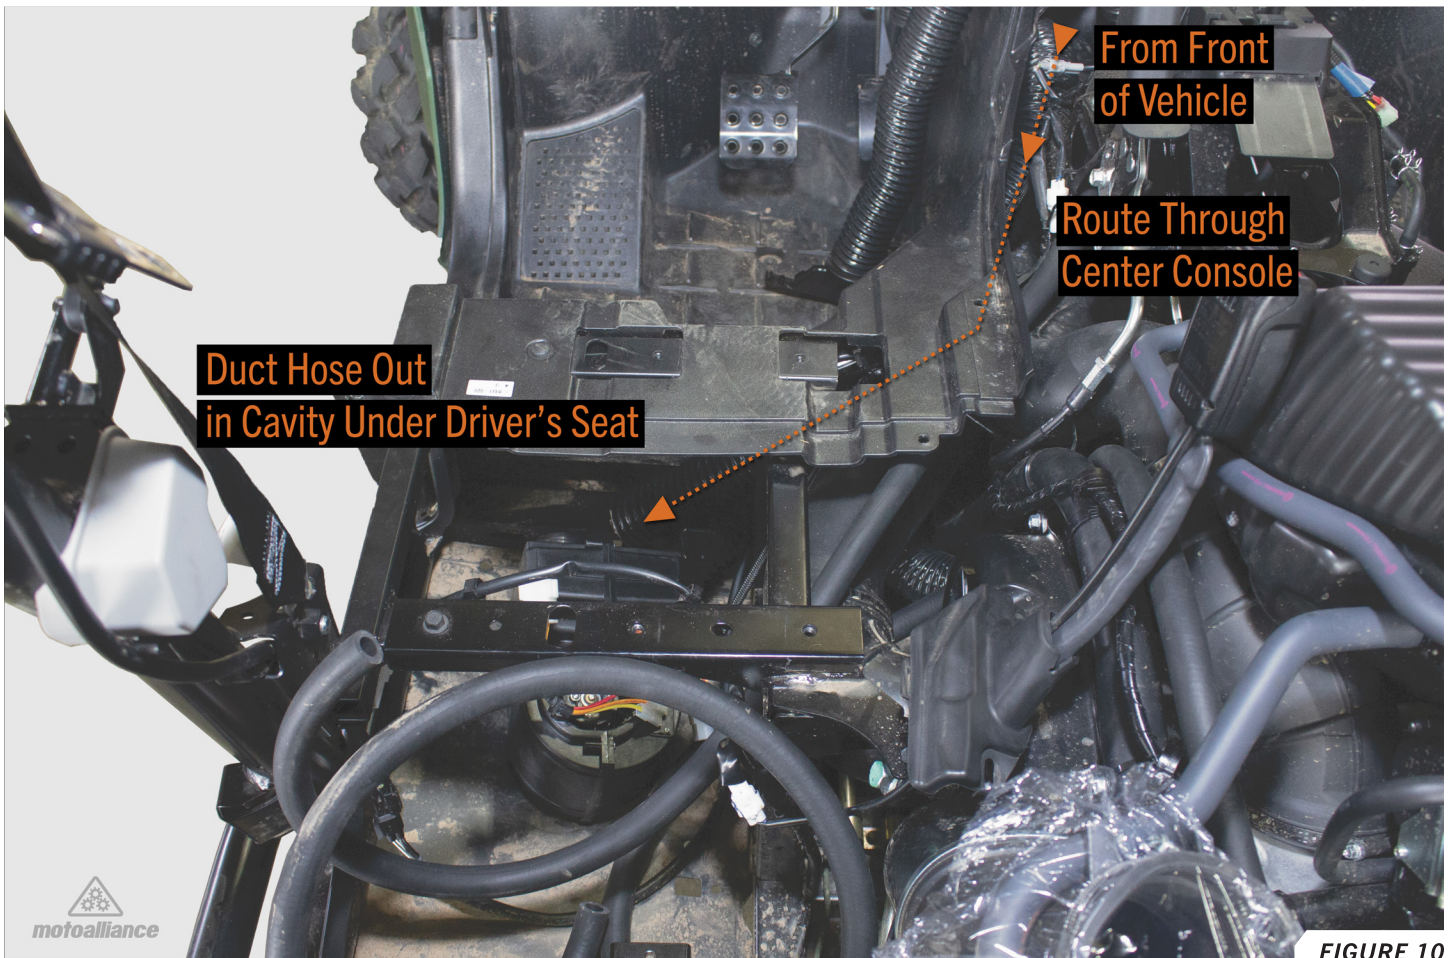

FIGURE 10
25. Route the 13" section and the 10" section through the center console to the cavity under the driver's seat. **FIGURE 10**